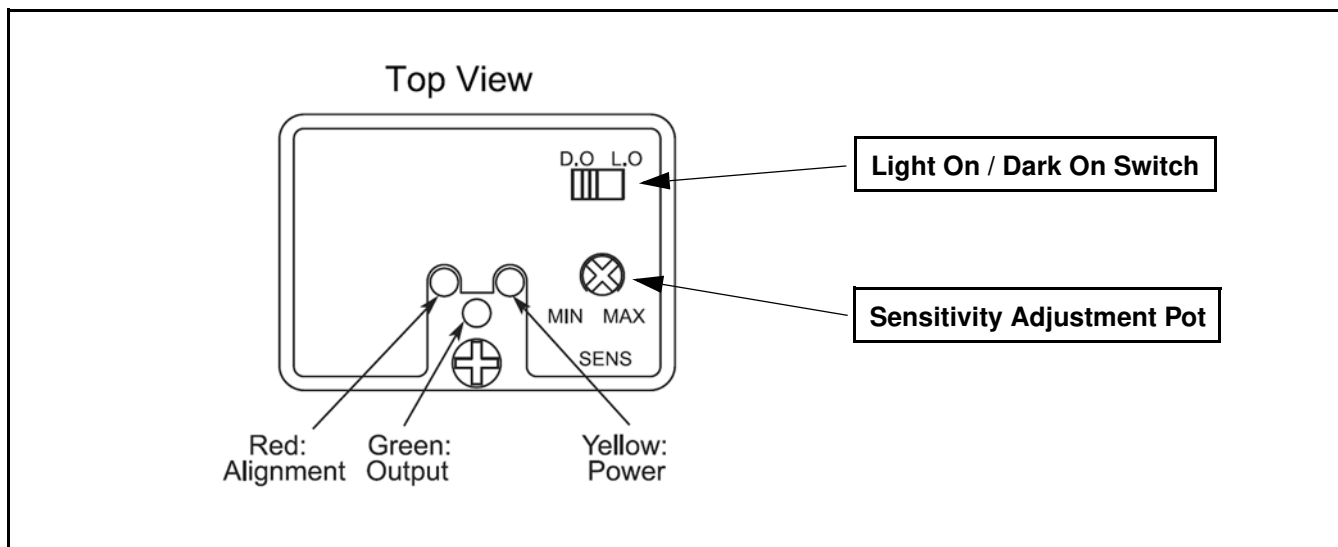

Figure 26
5. Photo eye comes preset to Light-On operation which causes the conveyor to run when the sensed zone is clear and stop when the sensed zone is blocked. For Dark-On operation move selector to D.O. position (**Figure 26**).